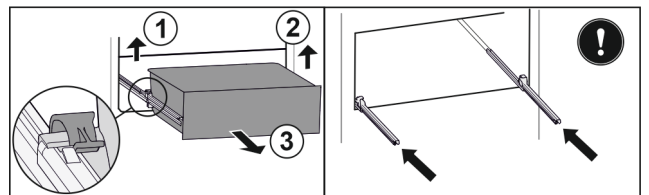

Fig. 40
- ▶ Lift left clamp and simultaneously pull drawer forwards on the left. Fig. 40 (1)
- ▶ Lift right clamp and simultaneously pull drawer forwards on the right. Fig. 40 (2)
- ▶ Remove drawer to the front. Fig. 40 (3)